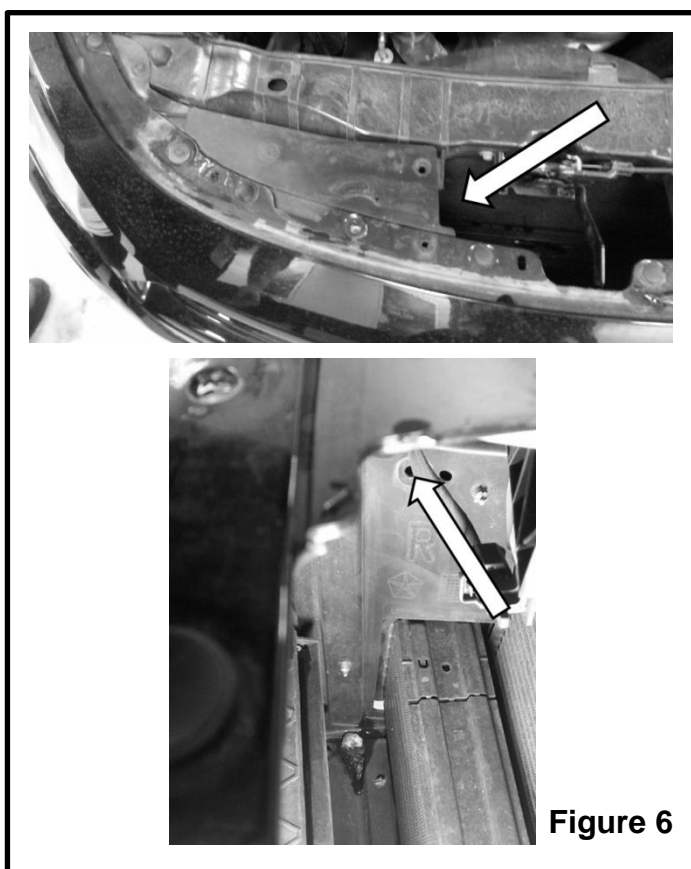

Figure 6
9. Remove the resonator bolt above and left of the "R" via the route shown in Figure 6.